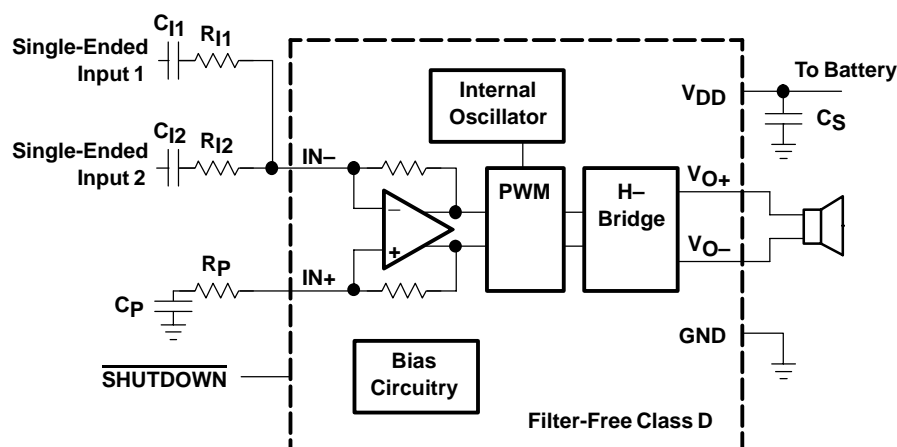

Figure 31. Application Schematic With TPA2005D1 Summing Two Single-Ended Inputs
Four resistors and three capacitors are needed for summing single-ended input signals. The gain and corner frequencies ( $f_{c1}$  and  $f_{c2}$ ) for each input source can be set independently (see equations (9) through (12), and Figure 31). Resistor,  $R_P$ , and capacitor,  $C_P$ , are needed on the  $IN+$  terminal to match the impedance on the  $IN-$  terminal. The single-ended inputs must be driven by low impedance sources even if one of the inputs is not outputting an ac signal.